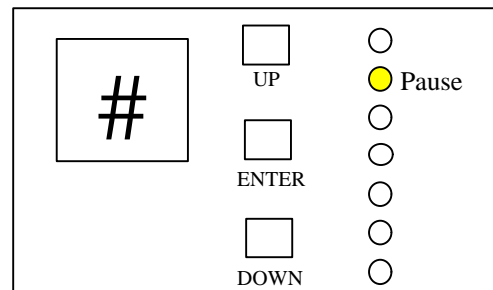

Figure 10
- To pause the program, press the UP key until either the PAUSE or STOP lamps are illuminated, then press ENTER. The two dashed lines that appear indicate that the chosen mode is functioning (Figure 10).